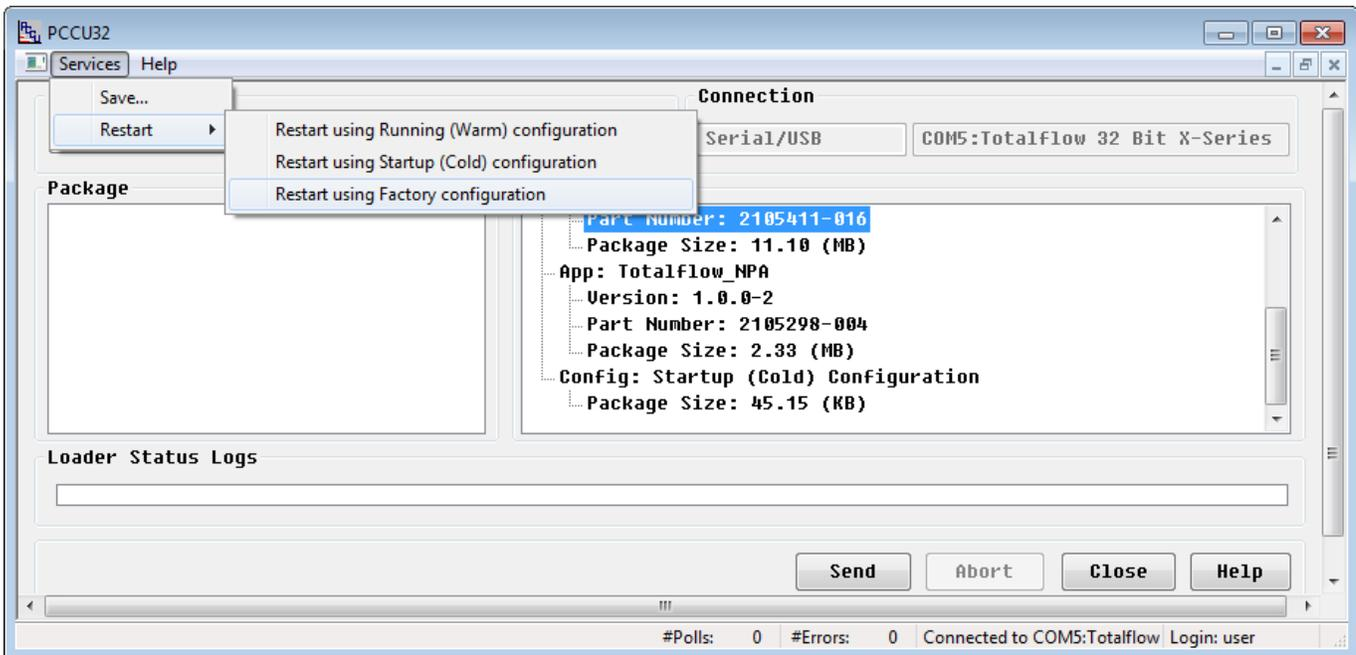

Figure 75: Restart using factory configuration
6. Click **Services** in the menu bar and select **Restart > Restart using Factory configuration** (Figure 75).